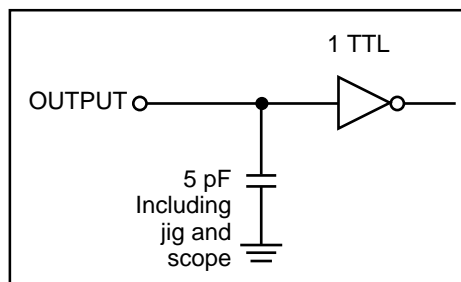

Figure 2
2. Tested with the load in Figure 2. Transition is measured ±500 mV from steady-state voltage. Not 100% tested.
- Tested with the load in Figure 2. Transition is measured ± 500 mV from steady-state voltage. Not 100% tested.